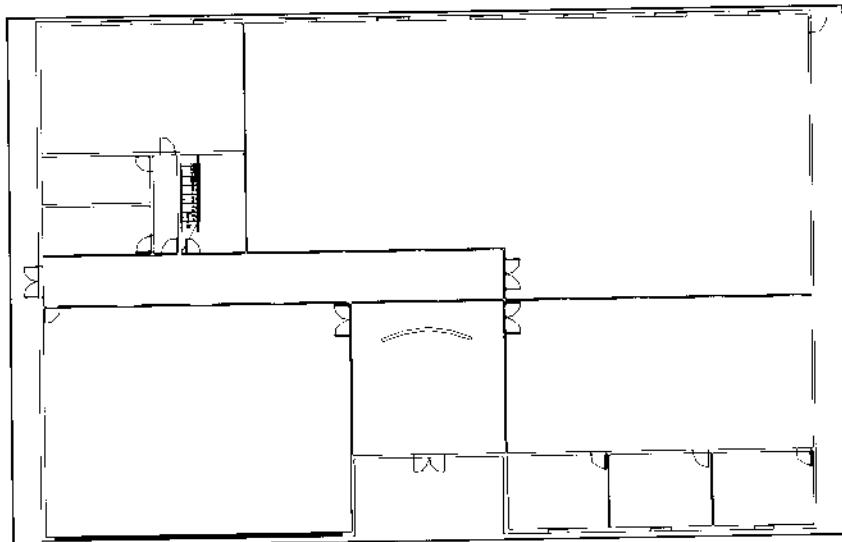

Figure 51.
6. If the roof layers are still turned off, the 2DSTAIR drawing should appear, as it is in Figure 51.